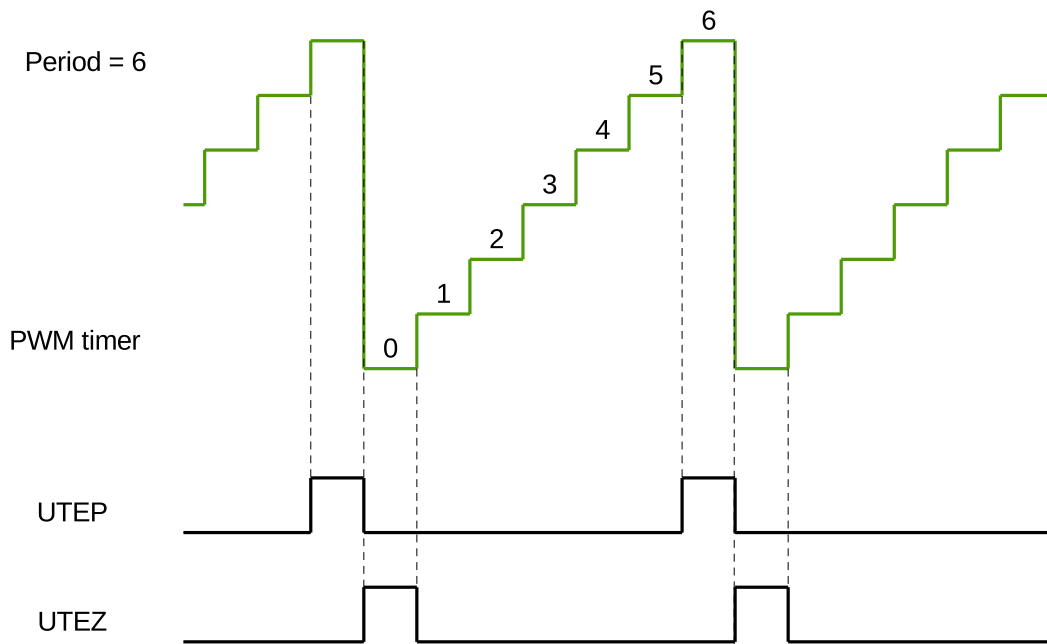

Figure 29.3-10. UTEP and UTEZ Generation in Count-Up Mode
Figures 29.3-10 to 29.3-12 show the timing waveforms of U/DTEP and U/DTEZ.
1. UTEP and UTEZ do not happen simultaneously. When the PWM timer is in count-up mode, UTEP will always happen one cycle earlier than UTEZ, as demonstrated in Figure 29.3-10, so their action on PWM signals will not interrupt each other. When the PWM timer is in count-up-down mode, UTEP will not occur.